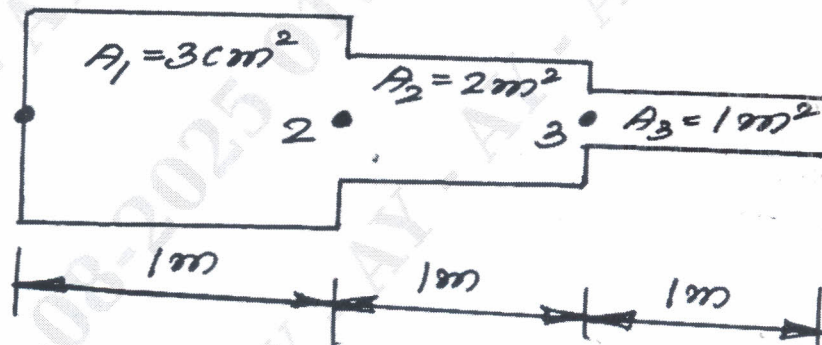

Fig Q8(b)
- b. For the smooth pipe of variable cross section shown in Fig Q8(b), determine the potential at the junctions, the velocities in each section of pipe and the volumetric flow rate. The potential at the left end is  $P_1 = 10 \text{ m}^2/\text{s}$  that at the right end is  $P_4 = 1 \text{ m}^2/\text{sec}$ . For the fluid flow through a smooth pipe,  $K_x = 1$ .